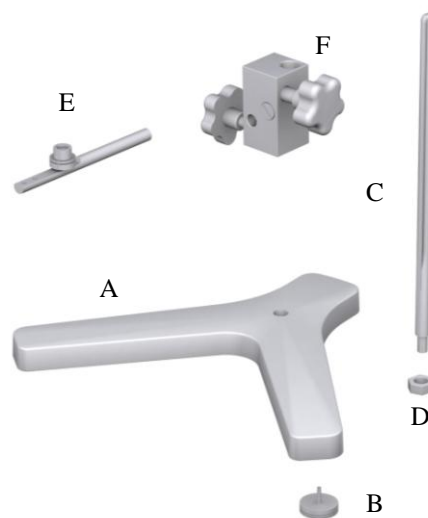

Fig. 6 Set-up for the viscometer base
- Remove all of the parts from the carry-case or the standard package. Note the figure below (fig 6).
- Correctly place the three height adjustable knobs (B) on the Y-shaped base (A).
- Mount the fastening rod (C) with the holding screw (D) at the base (A).
- Attach the nut (F) to the fastening rod. The viscometer should be connected to the nut (F) by means of its rod (E).